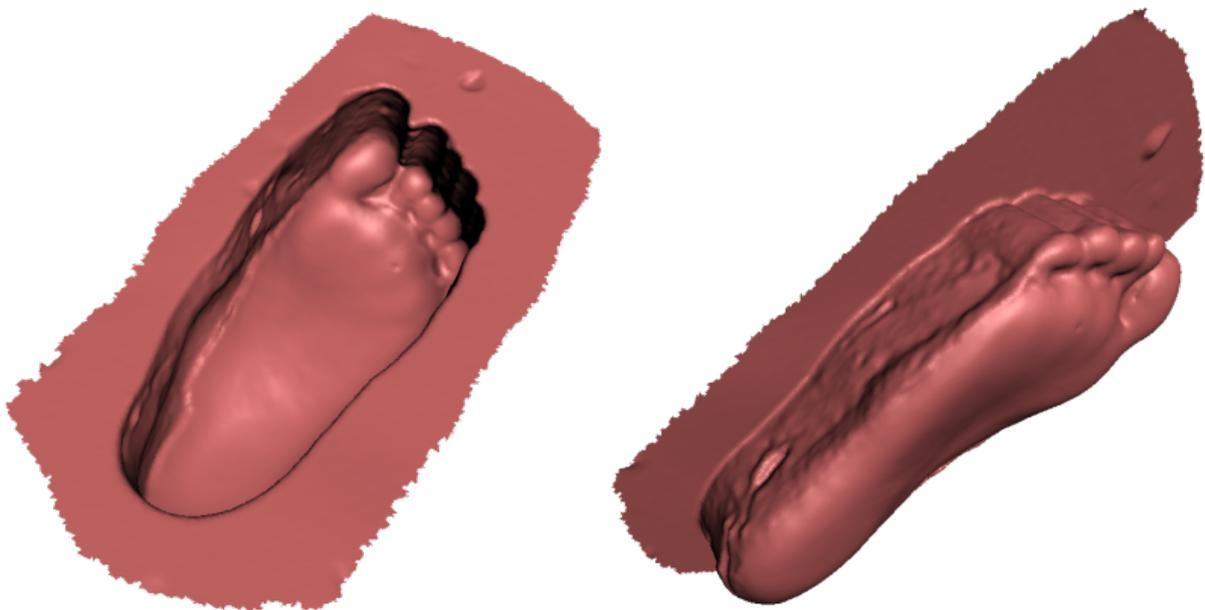

Figure 105: Normal inversion application: obtaining a foot model (right) from its cast (left).
*Normal inversion* allows one to turn the model inside out. This operation may be useful when you need to manufacture some mating parts, like molds; or obtain a model based on its cast (e.g., turn the footprint cast into a shoe last, see Figure 105).